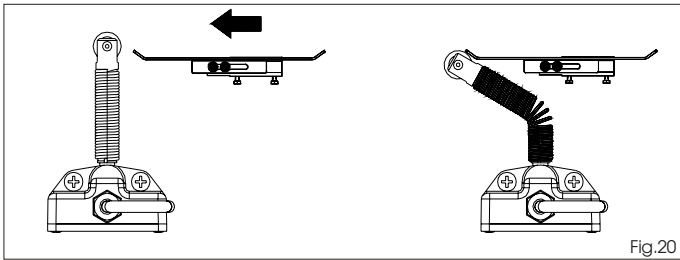

Fig.20
- a) The plate must activate the limit-switch on the profiled part as shown in figure 20.